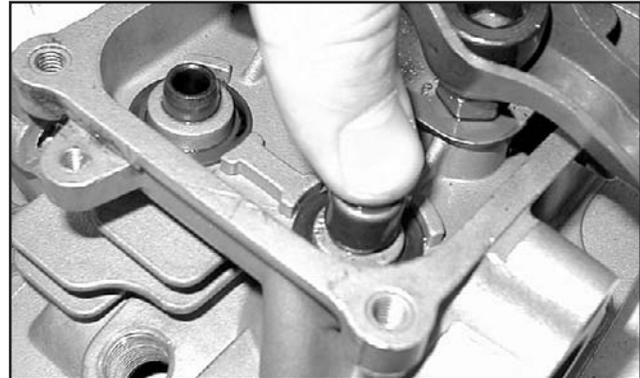

Figure 5-13. Install Valve Stem Seals
- a. Press seal on to intake valve guide bushing until it bottoms (Figure 5-13).